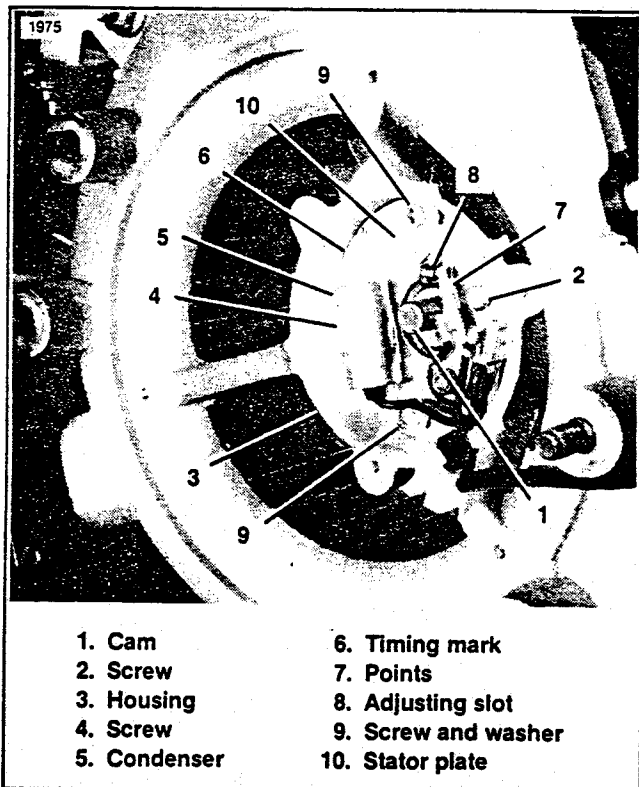

Figure 8-12. Circuit Breaker
3. See Figure 8-12. Remove condenser and coil wires from point set terminal.
4. Remove lock screw (2).
INSTALLATION (Figure 8-12)
ADJUSTMENT — BREAKER POINTS (Figure 8-12)
IGNITION TIMING (Figure 8-12)